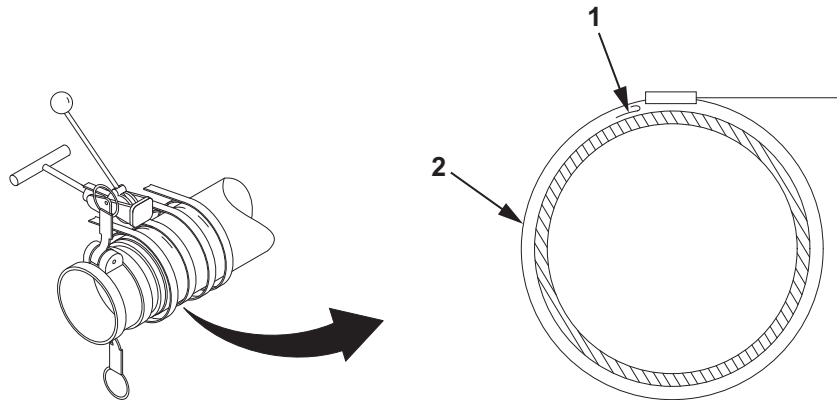
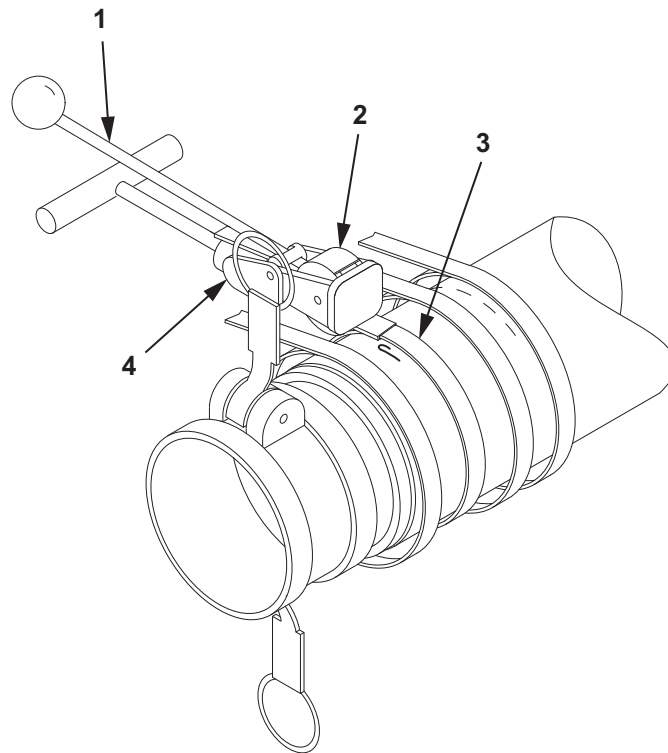

Figure 7. 4 X 10 Ft Suction Hose Assembly Repair.
Figure 8. 4 X 10 Ft Suction Hose Assembly Repair.
15. Install the bridge buckle (Figure 7, Item 1) under clamp (Figure 7, Item 2).
16. Tighten clamp (Figure 7, Item 2) until the clamp (Figure 7, Item 2) cannot be tightened by hand any further.
17. While holding the clamping tool handle (Figure 8, Item 1) in the down position, strike the center punch anvil (Figure 7, Item 2) three to four times with a hammer.
18. While still holding the clamping tool handle (Figure 8, Item 1) in the down position, raise the entire clamping tool (Figure 8, Item 4) up to shear the tail of the band off of the clamp (Figure 8, Item 3).
19. Using hammer, tap the edge of the distorted clamp (Figure 8, Item 3) down to a level configuration.